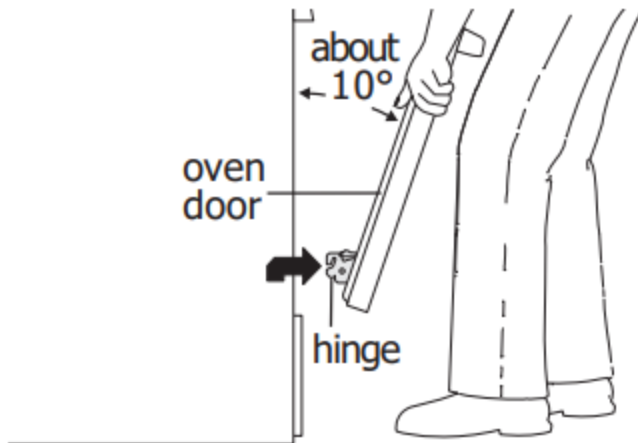
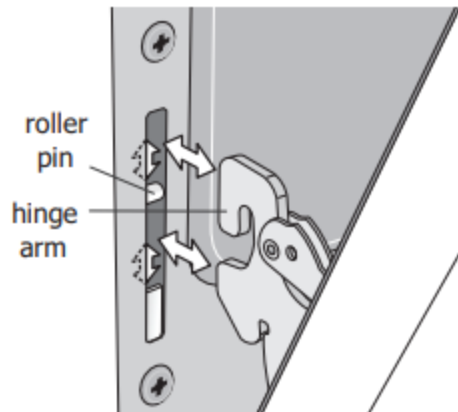

Figure 22: Holding door for removal
Figure 23: Replacement and location of hinge arm and roller pin
3. Firmly grasp both sides of oven door along the door sides. Do not use the oven door handle (See Figure 22)
4. Close the door to approximately 10 degrees from the door frame (See Figure 22).
5. Lift the oven door hinge arms over the roller pins located on each side of the oven frame (See Figure 23).
1. Firmly grasp both sides of oven door along the door sides. Do not use the oven door handle (See Figure 22). 2. Holding the oven door at the same angle as the removal position, seat the hook of the hinge arm over the roller pins located on each side of the oven door frame (See Figure 22 and Figure 23). The hook of the hinge arms must be fully seated onto the roller pins.